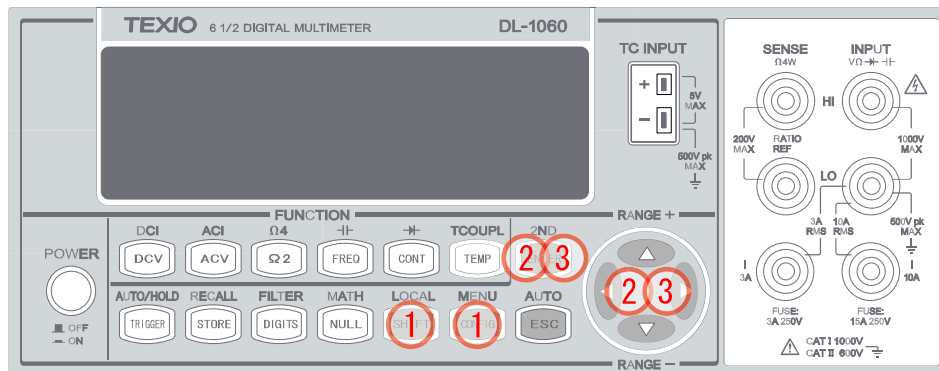

Figure 3-20
1. Press SHIFT+CONFIG buttons as shown in **Figure 3-20**.